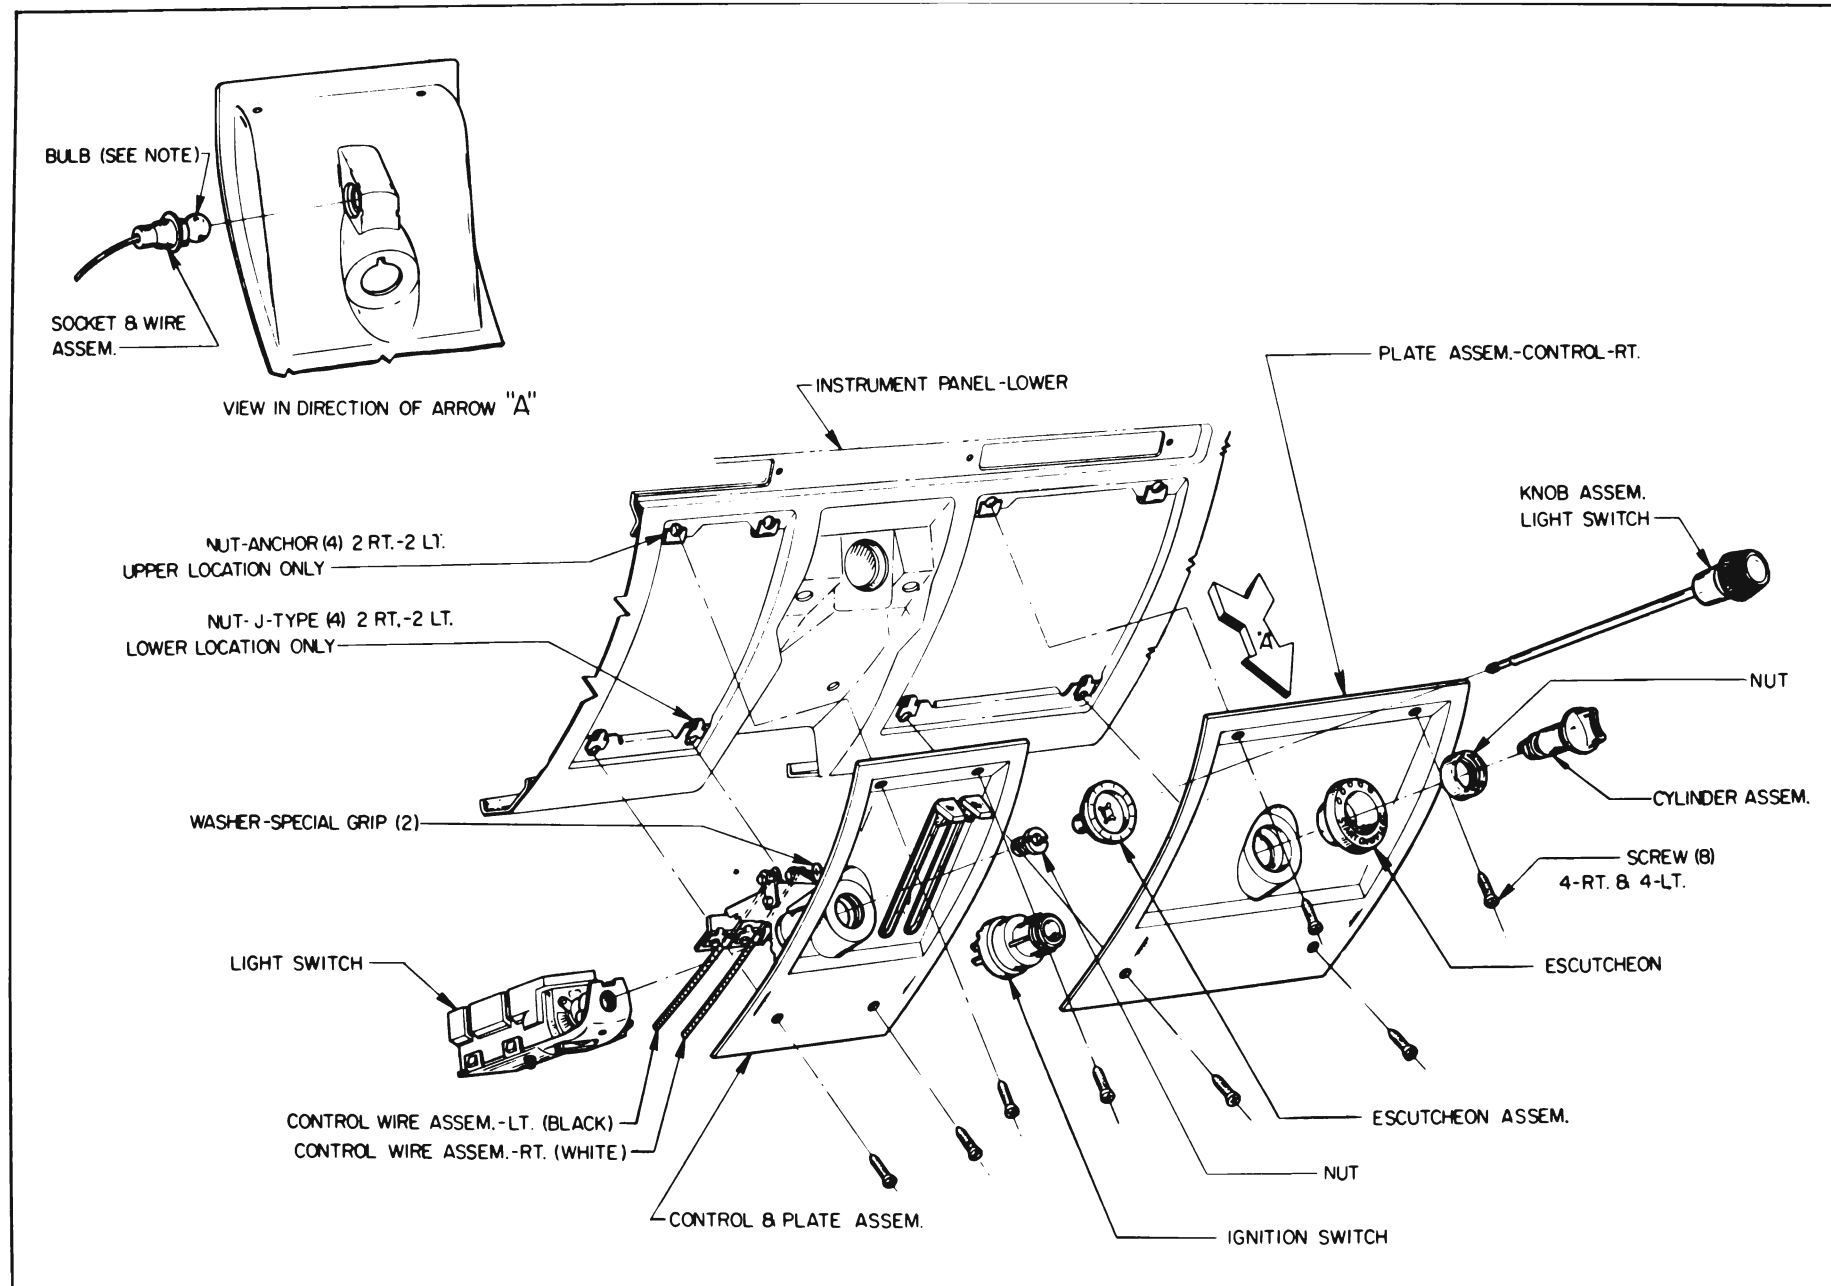

Figure 10-47—Light Switch and Ignition Switch Installation
3. Remove right control plate retaining screws and pull plate out from instrument panel. See Figure 10-47.